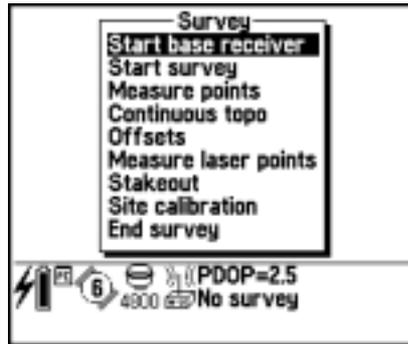

Figure 7.1 Trimble RTK Survey menu
4. The *Survey* menu appears. It displays the items appropriate to the type of survey associated with the Survey Style selected. Figure 7.1 shows the screen that appears if *Trimble RTK* is selected, for example.